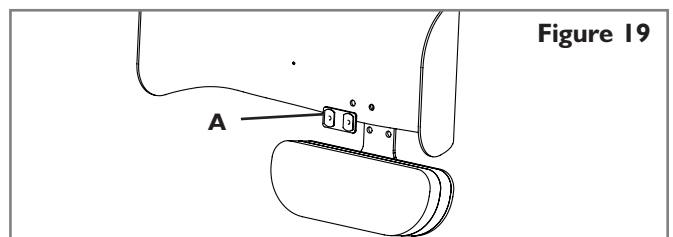

Figure 19
2. **Attach Sacral Support to Shell (Figs. 19, 20)**
- b. Place the “Nut Plate” (A) through the shell from the inside.
- d. Attach with the two M4 screws (B) and tighten to secure.